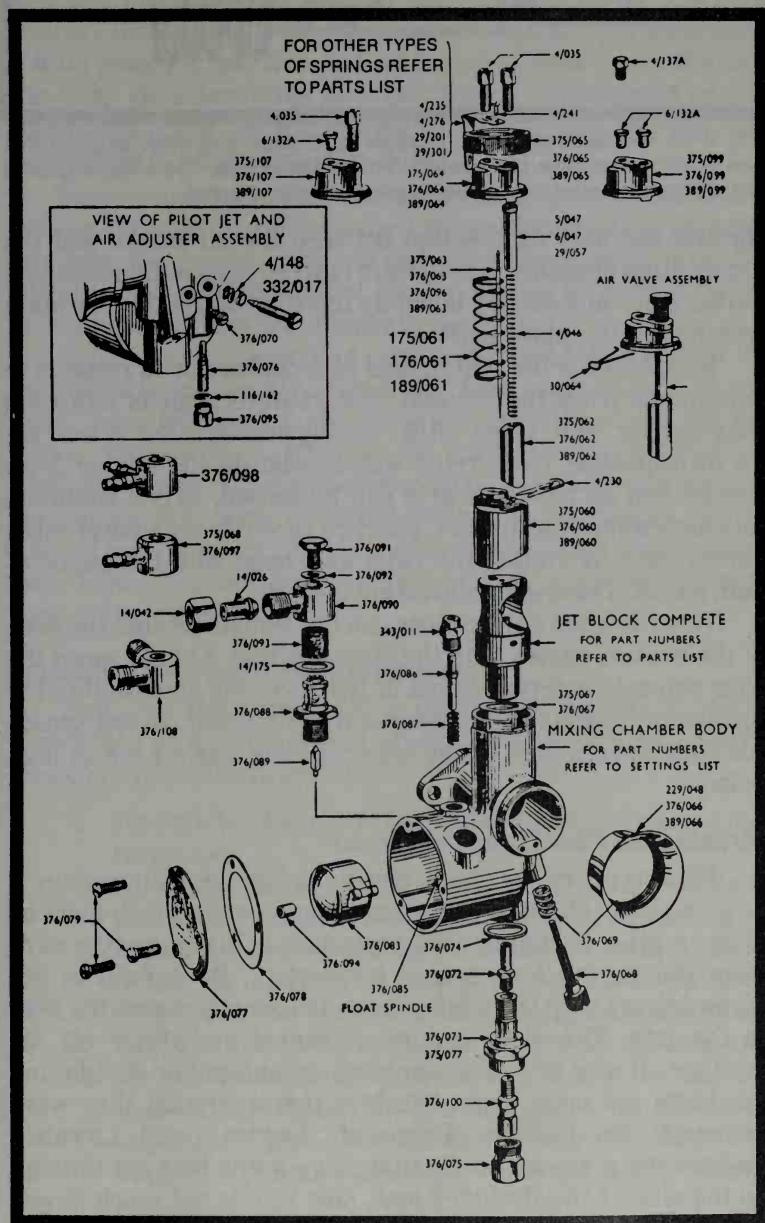

Fig. 4-15. The famous Amal Monobloc with parts numbers.
The Amal Monobloc shown in the next drawing (Fig. 4-15) uses a choke slide (labeled "air valve assembly") and a straddle-mounted float bowl. The spring-loaded screw next to the float bowl bears against the throttle slide. Turning the screw further into the carburetor body raises the slide and increases idle speed.
Slide throttle carburetors are somewhat more difficult to adjust, but most of the frustration can be avoided by approaching the job systematically. The high-speed side can be adjusted using two items; the position of the needle relative to the throttle slide and the size of the main jet. If you look again at the drawing of the Kawasaki carburetor (Fig. 4-14) you can see that the needle (No. 38) has grooves cut into it. A spring clip (No. 37) fits on one of the grooves and locates the needle. The higher the needle is raised, the richer the mixture. The Amal, shown in Fig. 4-15, uses the same system while other makes, such as the Villiers, have a threaded needle that can be moved in and out of the slide. The main jet on all of these carburetors is replaceable and comes in various sizes. Each jet will have a number stamped on it, which is the factory code for the inside diameter. Generally, the higher the number, the larger the jet.
6. The slide cutaway controls the mixture between one-eighth and one-quarter throttle (Fig. 4-17B). The cutaway is the angle milled on the leading edge of the slide and is shown clearly in Fig. 4-15. The greater the cutaway, the more air is diverted into the bore and the leaner the mixture. An almost certain symptom of cutaway problems is a stumble as the engine comes off idle.